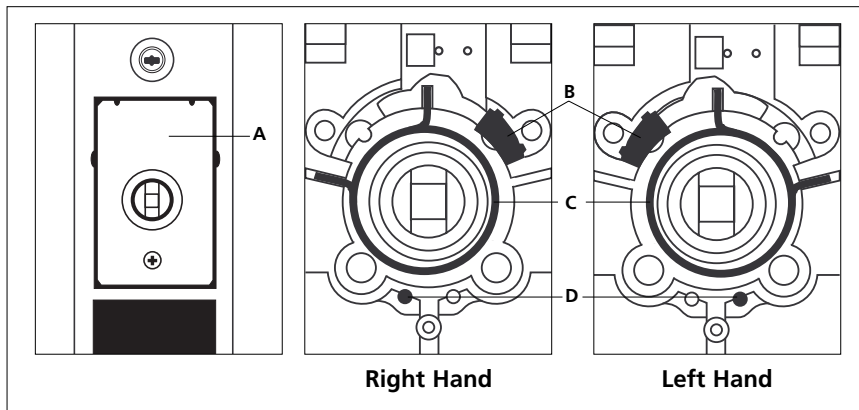
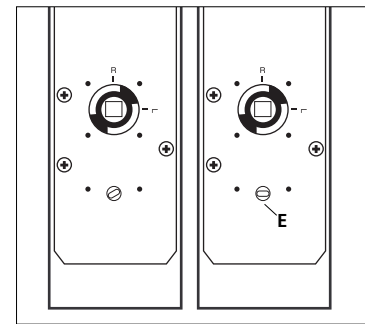

Figure 17
Figure 18
- 7) With a screwdriver, rotate the override cam (D) on the inside housing counter clockwise, until it stops. Then return it to the horizontal position (see Figure 17)
**Inside Housing Assembly (see Figure 17)**
- 1) Remove the access plate (A). The screw is located underneath the warning sticker.
- 3) Remove the silver colored spacer (B).
- 5) Reposition the coil spring (C) (the tip of the coil spring must be down) and the hand siding pin (D) for the new handing of the lock, as shown. Before changing the hand siding pin make sure that the override cam (E) (see Figure 18) is turned completely clockwise, and that the spindle is straight. After changing the pin turn the override cam counter clockwise back to its original position.